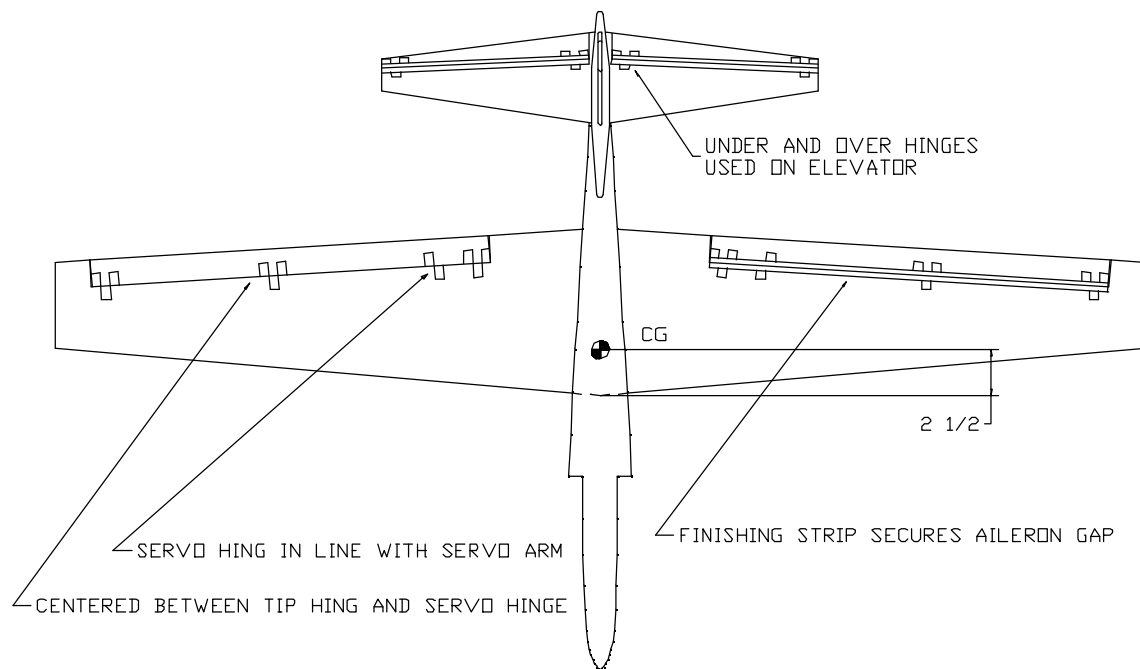

Figure 12
- ❑ Pre-balance plane before finishing. See figure 12
- ❑ Verify the plane is still in balance. Reference figure 12 for location. Use 1/8 diameter lead or solder on nose or tail depending on the adjustment required.